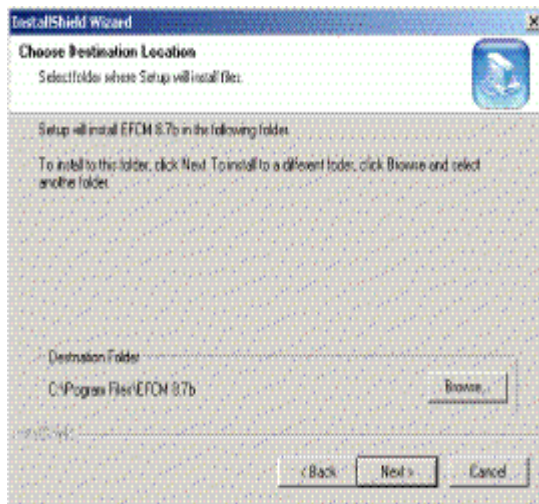

Figure 4-23 InstallShield Wizard Dialog Box
4. Click OK. The *InstallShield* third-party application prepares to install the software version, and opens the *InstallShield* Wizard dialog box (Figure 4-23).